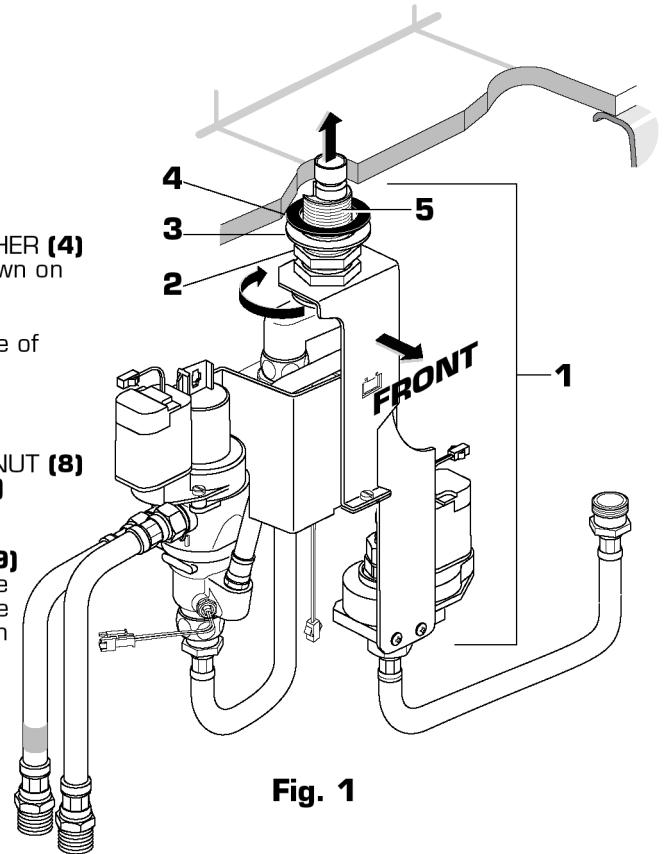

Fig. 1
- Unpack VALVE ASSEMBLY (1) from box.
- Install LOCK NUT (2), BRASS WASHER (3) and RUBBER WASHER (4) onto SPOUT MOUNTING SHANK (5). Thread LOCK NUT (2) down on SPOUT MOUNTING SHANK (5). Fig. 1.
- Face the flat side of the VALVE ASSEMBLY (1) toward the inside of the bath. From the underside of the mounting surface install the SPOUT MOUNTING SHANK (5) into mounting hole of the bath or mounting surface. Fig. 1.